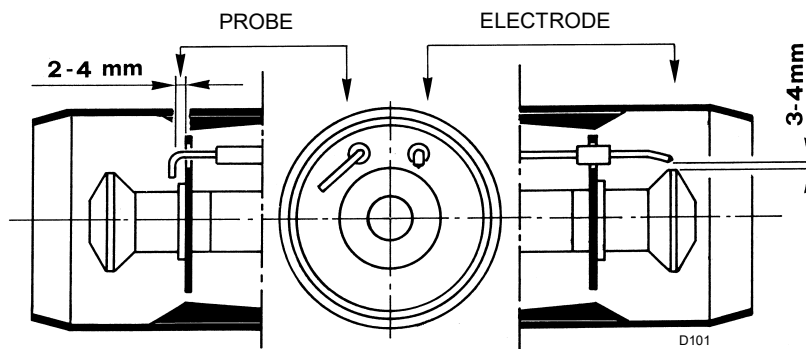

Fig. 13
- Now the gas distributor 4) can be easily inspected. Check that probe and electrode are correctly positioned, as shown in Fig. 13. In case of incorrect position, remove the gas distributor 4) when opening the burner for head calibration, see pag. 19.
Before securing the burner to the boiler, check (through the opening of the blast tube) that the probe and electrode are correctly positioned, as in Fig. 13.
Do not rotate the probe but leave it as in Fig. 13; if it is too close to the ignition electrode, it could damage the flame control amplifier.
Respect the dimensions shown in Fig. 13.